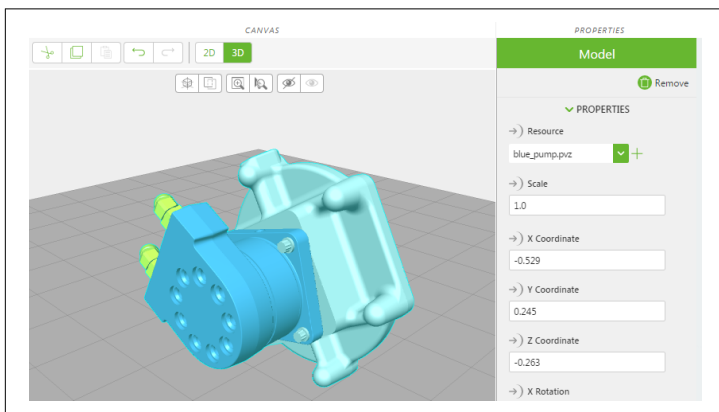

Figure 3-6. The 3D model of the blue pump
9. Click Close to close the Add Resources window. The 3D model of the blue pump appears on the canvas (see **Figure 3-6**).